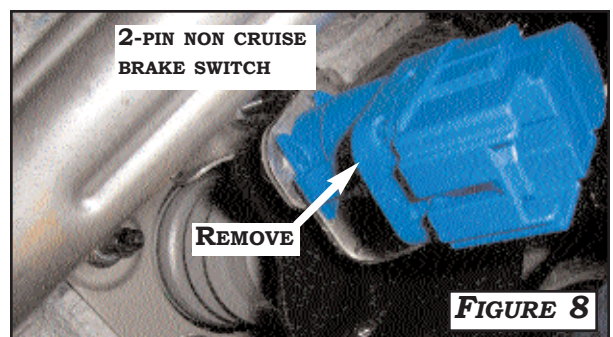

FIGURE 8
1. DISCONNECT THE CONNECTOR FROM THE BRAKE SWITCH. REMOVE THE 2-PIN BRAKE SWITCH BY TURNING CLOCK WISE AND THEN RELEASING. **FIGURE 8**. REPLACE WITH 4-PIN CRUISE BRAKE SWITCH SUPPLIED IN KIT.